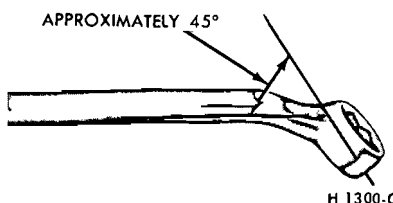

FIG. 5 Wrench for Bleeding Brake Hydraulic System
2. To bleed the secondary (rear) brake system, position a suitable 3/8 inch box wrench (Fig. 5) on the bleeder fitting on the brake wheel cylinder. Attach a rubber drain tube to the bleeder fitting. The end of the tube should fit snugly around the bleeder fitting.
4. If the rear wheel cylinders, the secondary brake system, are to be bled, position a 3/8 inch box wrench (Fig. 5) on the bleeder fitting on the right rear brake wheel cylinder. Attach a bleeder tube to the bleeder fitting. **The end of the tube should fit snugly around the bleeder fitting.**